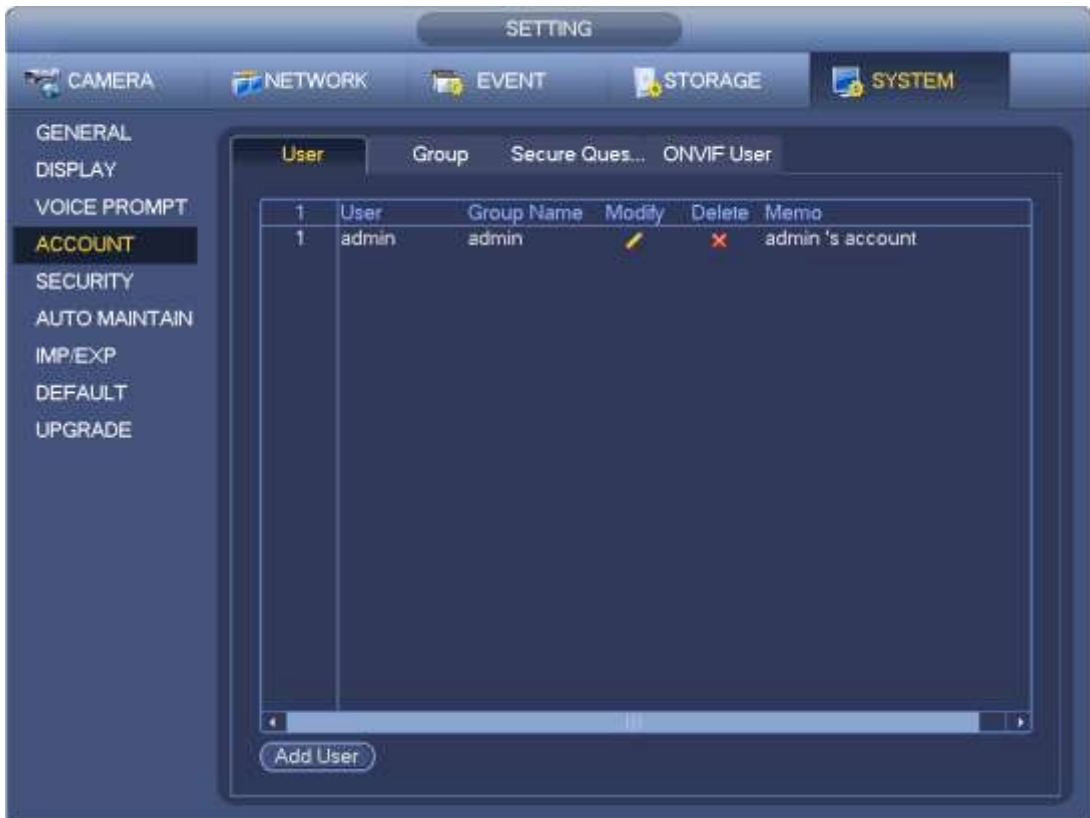

Figure 4-196
Enter user interface. See Figure 4-196.
- Step 2 Click Add user button in Figure 4-196.